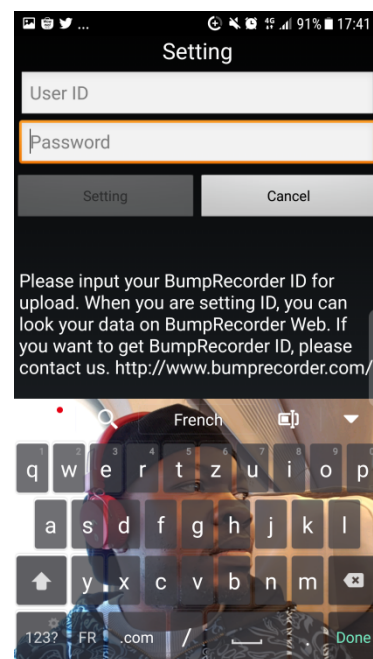

Fig.1.6. ID setting screen
When the screen is shown in Fig.1.6. opens, enter the ID and password that you obtained on the computer first and press the “Set” button.
* Note: If you open the ID setting screen in Fig. 1.6. after setting the ID, the ID and password are displayed. This is a display for when you have forgotten your ID or password. Do not show this screen to others.